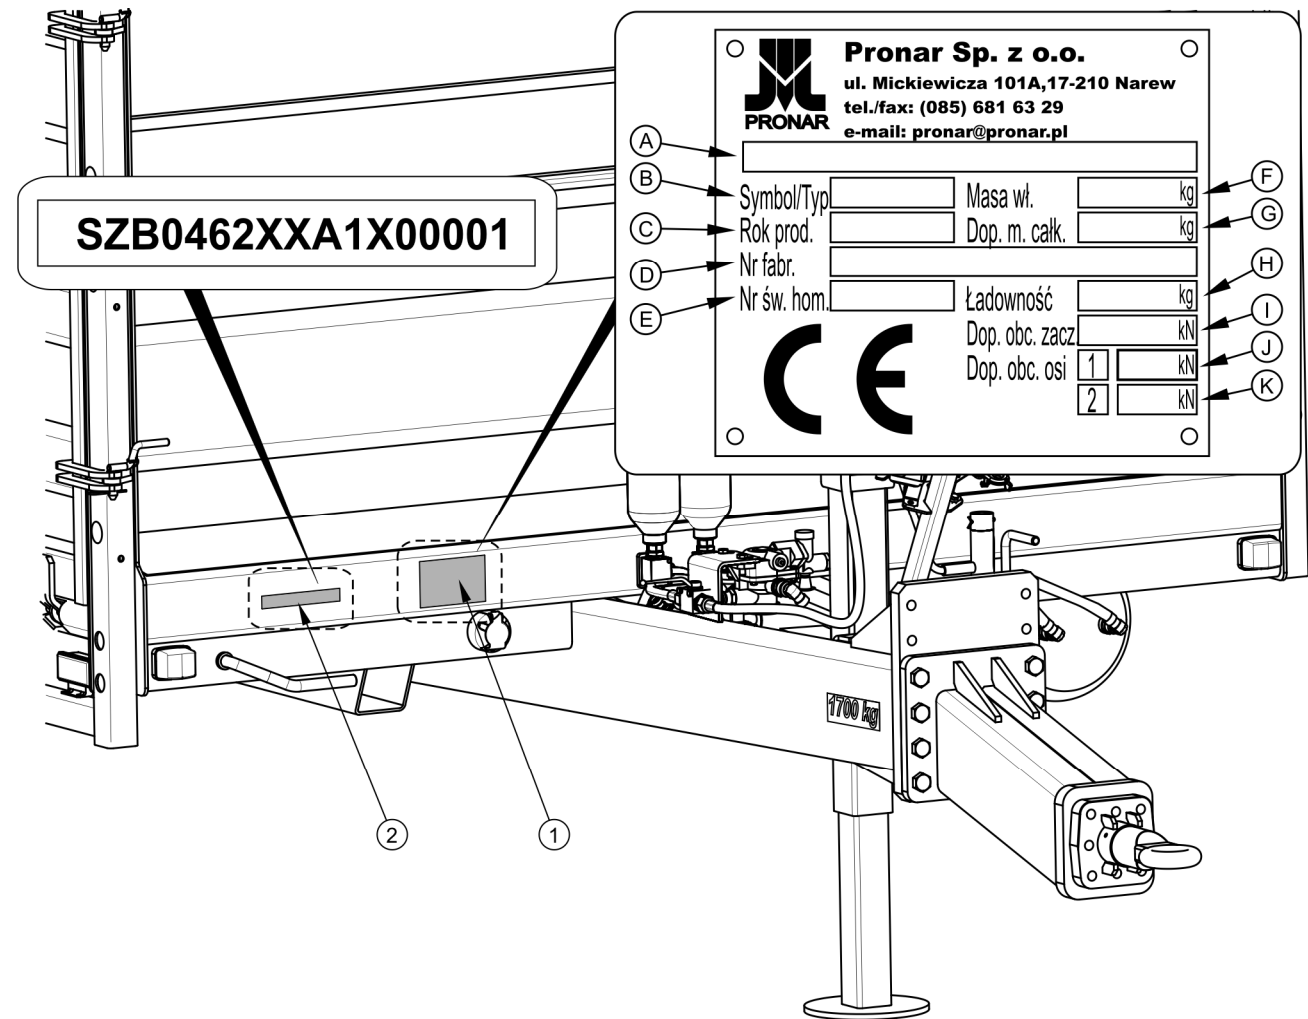

FIGURE 1.1 Location of the data plate
(1) data plate, (2) serial number
The trailer is marked with the data plate (1), and the seventeen-digit factory number (2) located on a gold painted rectangle. The serial number and data plate are on the beam of the trailer's upper frame (Fig. 1.1).